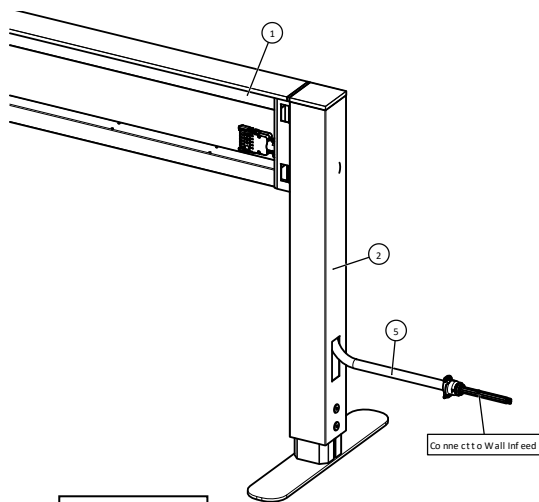

Figure 2
STEP 2: Route the wall infeed (5) through the electrical cutout, as shown in Figure 2. Note: The routing is directional. The free end with the wires must be taped and pulled through the post before the distribution box is installed.